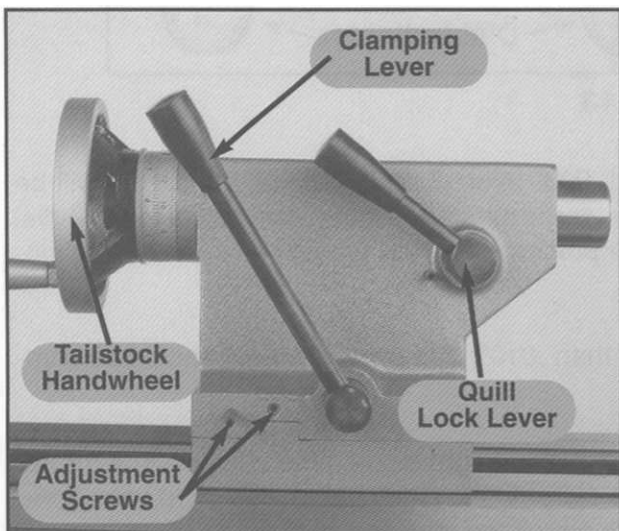

Figure 11
4. Move the cross slide away from the headstock until the dial indicator shows the measurement at the tailstock side of the mandrel. Turn the chuck to determine the largest variation from your original measurement at the chuck. That measurement, minus the amount of taper, will determine the amount of runout in the tailstock. Loosen the setscrews shown in Figure 11 and move the tailstock until the runout is eliminated. Once properly adjusted, the dial indicator should show the same measurement consistently as you rotate the mandrel.